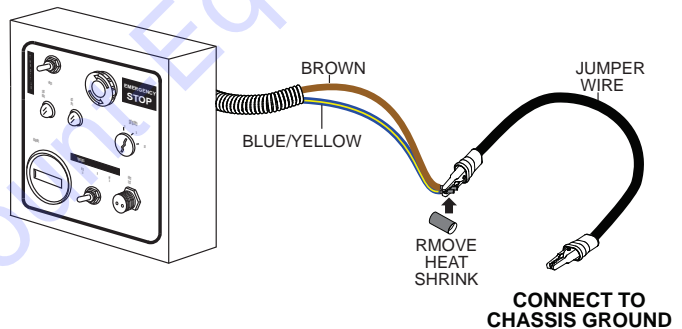

Figure 36. Ground Connection
5. Locate the brown and blue/yellow wires joined together at the back of the control box, tucked inside the split loom. Remove heat shrink covering the brown and blue/yellow wires (Figure 36).
6. Connect the brown and blue/yellow wires to chassis ground. See Figure 36.